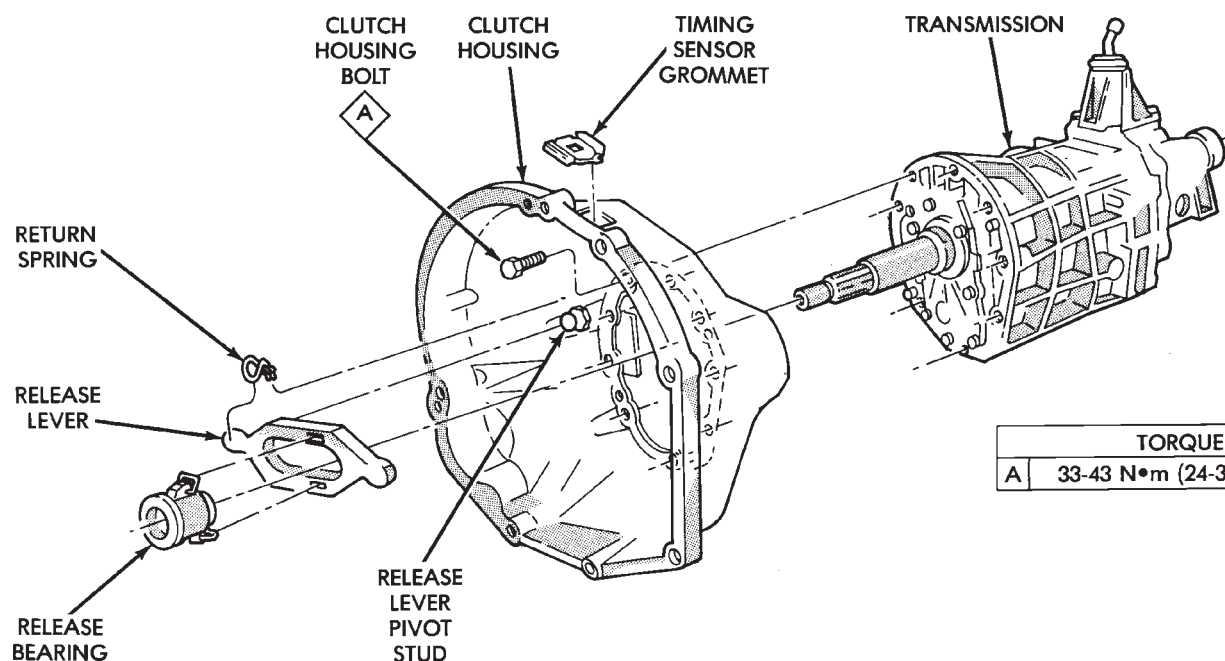

Fig. 5 Clutch Housing And Release Bearing Attachment
- (2) Remove release bearing, release lever and boot and lever pivot ball stud from clutch housing (Fig. 5).
- (3) Remove clutch housing attaching bolts and remove housing from transmission (Fig. 5).
- (1) Remove transmission and clutch housing as an assembly.
- (2) Disconnect release bearing from the fork and remove bearing (Fig. 5).
- (3) Inspect bearing slide surface of transmission front bearing retainer. Replace retainer if slide surface is scored, worn, or cracked.
- (4) Inspect release fork and fork pivot. Be sure pivot is secure and in good condition. Be sure fork is not distorted or worn. Replace release fork retainer spring if bent or damaged in any way.
- (5) Lightly lubricate crankshaft pilot bushing, input shaft splines, bearing retainer slide surface, fork pivot and release fork pivot surface with Mopar high temperature grease.
- (6) Install release fork and new release bearing. Be sure fork and bearing are properly secured.
- (7) Install transmission and clutch housing as assembly.